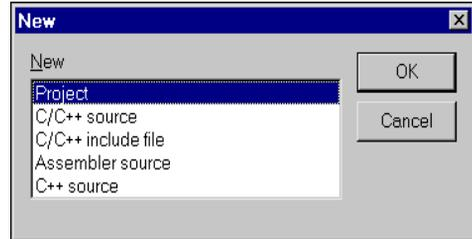

Figure 2-1 New dialog
1. Select **New** from the **File** menu or click the **New** button. The New dialog is displayed (Figure 2-1).